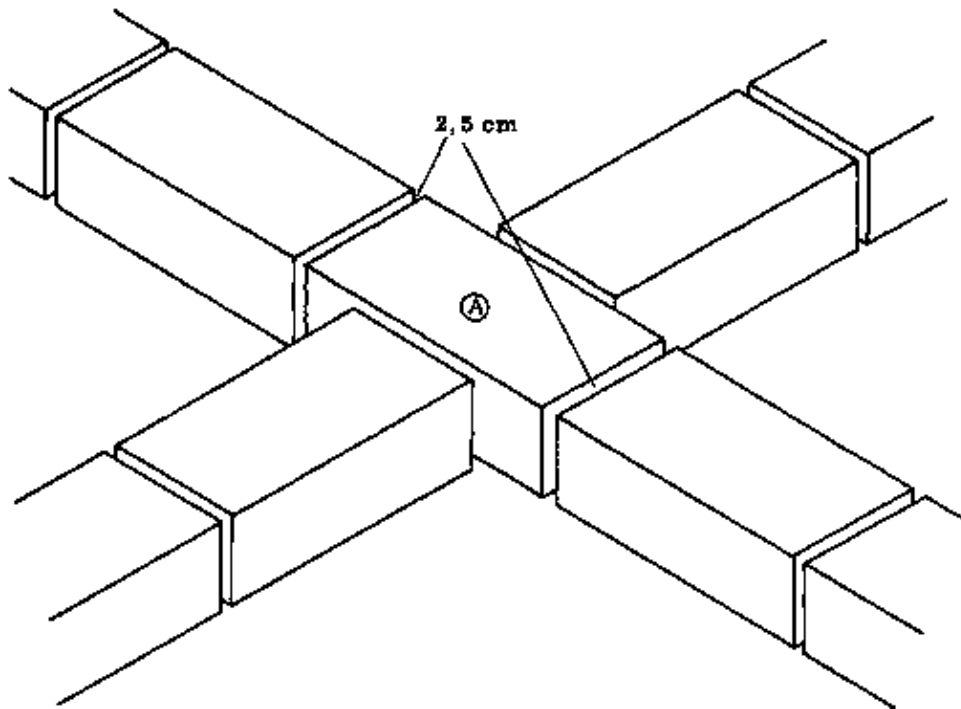

Fig. 1
The first course consists entirely of full blocks (Fig. 1). The through-going block (A) projects equally from both sides of the crossing wall. This block has cross joints of 2, 5 cm on each end, but all the other joints are still 2 cm thick (Fig. 1).